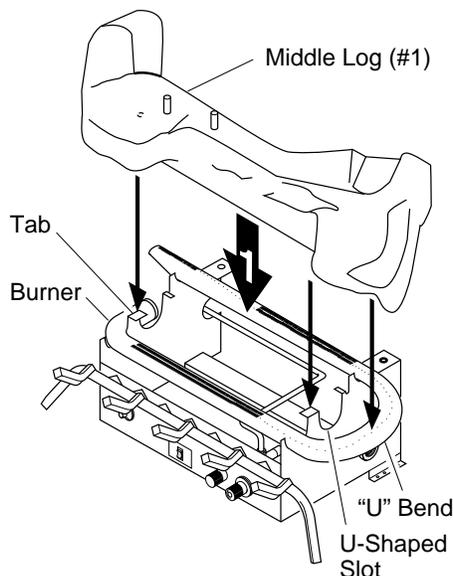

Figure 26 - Installing Middle Log (#1)
1. Place the base of the middle log (#1) in the U-shaped slots of the grate base. The cutout on the right of the middle log should sit over the burner (see Figure 26). Make sure the front of the middle log is resting on the tabs of the grate base and the cutout area is centered over the burner "U" bend.